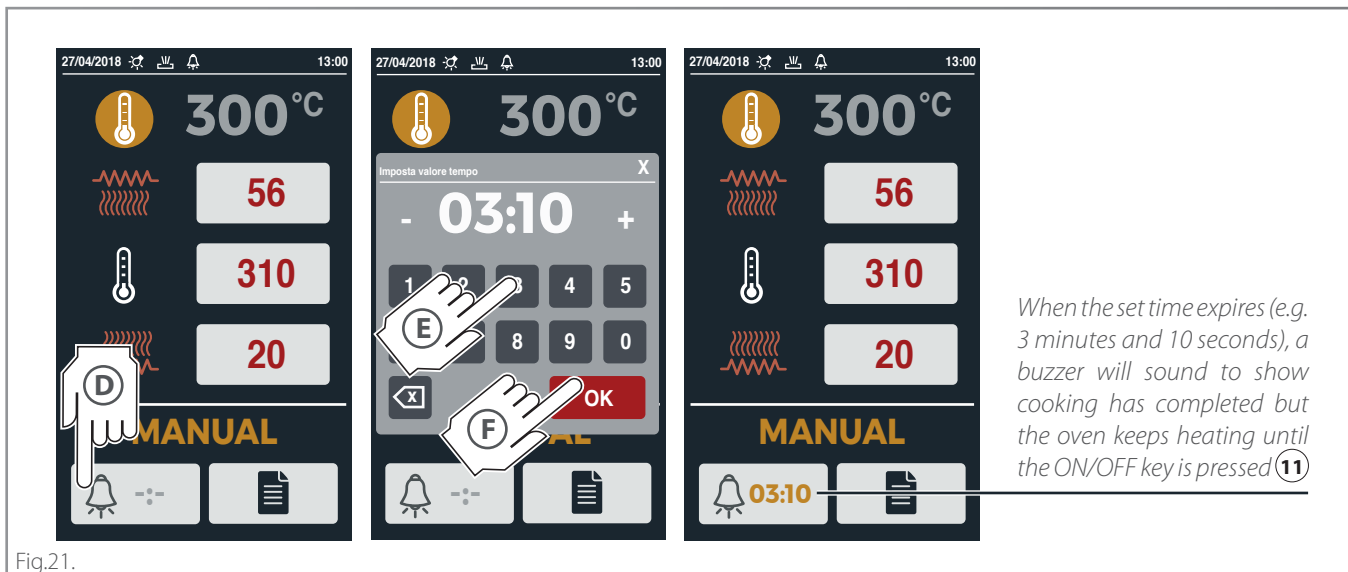

Fig.21.
► Fig.21.
- **D4** if you wish, you can enable a buzzer that will go off when the set time expires, warning that cooking is complete (see ► Fig.21.).
The temperature in the chamber, the top and bottom power and the buzzer are set as usual (see ► Fig.16. and Fig.21.)